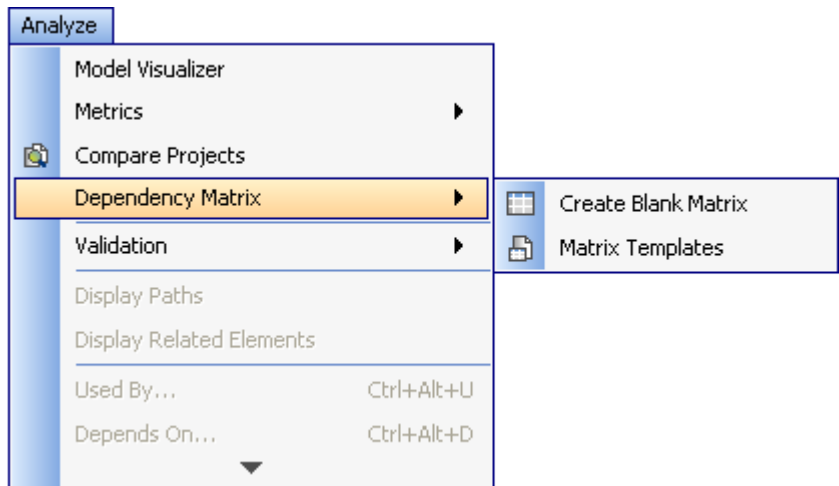

Figure 251 -- Opening Dependency Matrix from the Analyze Main Menu
- Analyze main menu (Figure 251)